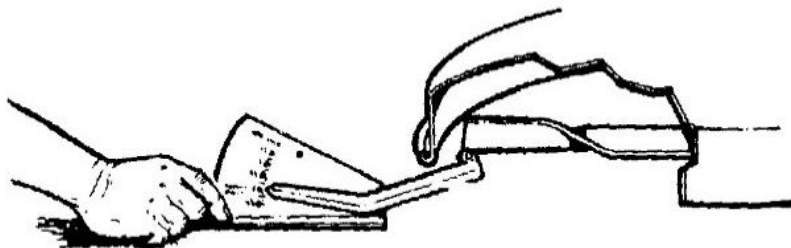

Fig. 7
6. Use a ruler or a level meter (Fig. 7) to measure the clearance gaps between the tips of three blades and the ground. The blade tip clearance should be 76 mm ( $\pm 3$  mm) above the ground.